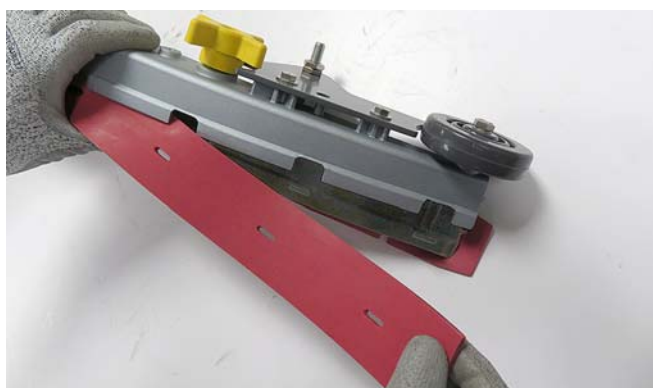

FIG. 138
3. Remove worn blade(s) from the blade retainer (Figure 138).